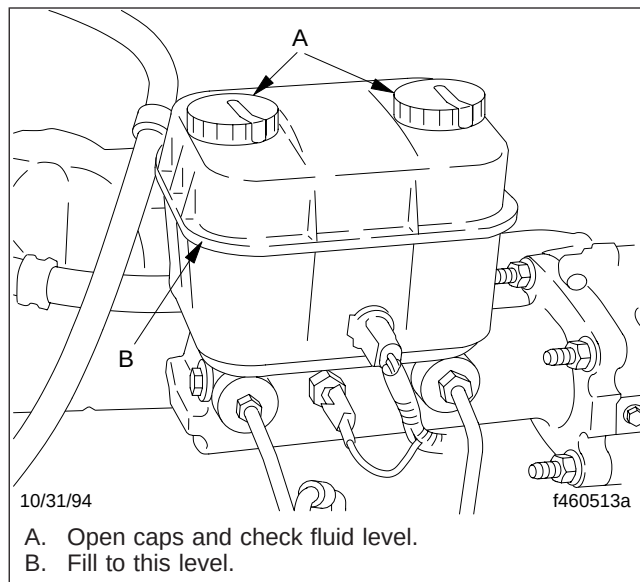

Fig. 11.2, Hydraulic Brake Fluid Reservoir
16. If needed, fill the hydraulic brake fluid reservoir up to the flange that surrounds the reservoir. Use only heavy-duty brake fluid, DOT 3. See Fig. 11.2.